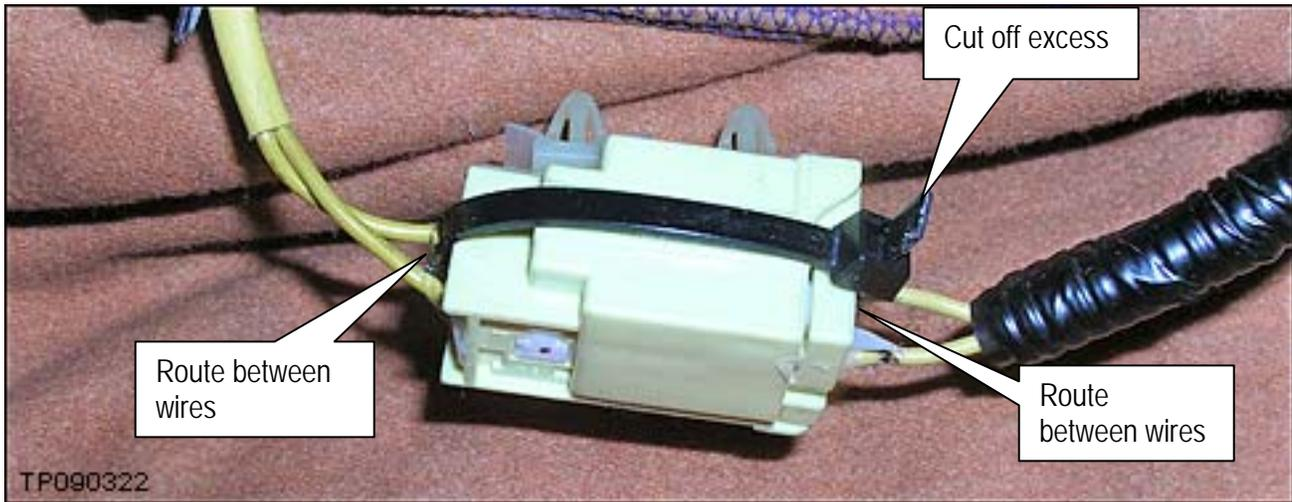

Figure 7
13. Install a tie-wrap (P/N 24225 – 79960) around the connector as shown in Figure 7.